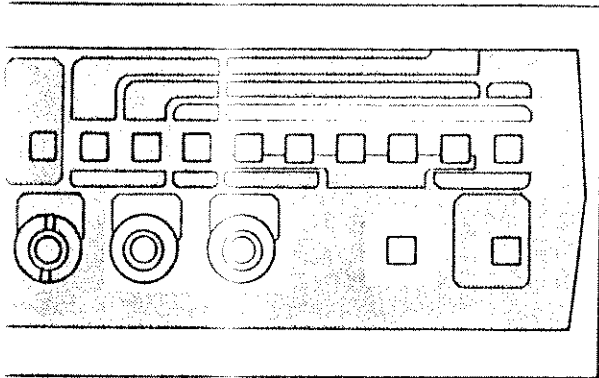

Figure 1-6. Resistance Measurements
35. The controls and terminals used to make resistance measurements are highlighted in Figure 1-6. The measurement function is selected by pushing the $k\Omega$ switch to the IN position. The colored area enclosing the Ω function switch extends up and to the right enclosing the six range values for the resistance function. To select a particular resistance range, depress the range switch immediately below the desired range value. Connect the test leads; red to the $V/k\Omega/S$ terminal and black to the COMMON terminal.